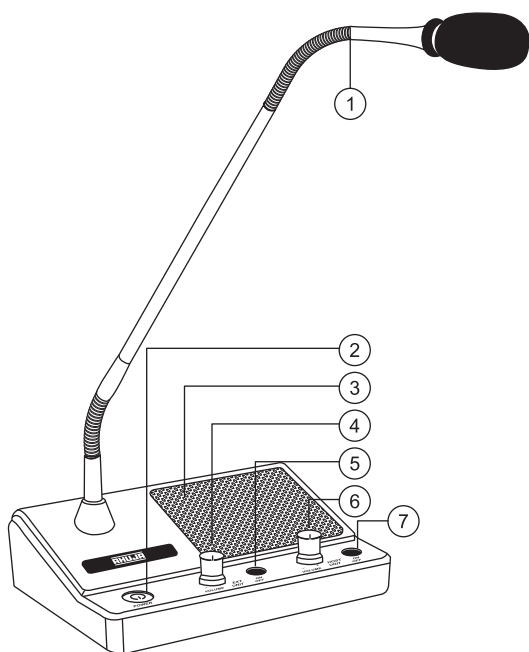

Fig. 1
For the customers outside the glass barrier to listen to the voice of the attendant (operator). The speaker is switched ON by (5), and the level of sound in this speaker is adjusted by (4) in Fig. 1.
- Turn ON the EXT UNIT and HOST UNIT switches on the front panel of the Host Unit. See items (5) and (7) in Fig.1.
- While speaking into the Host Unit mic, and into the external unit, adjust the two volume controls (4) and (6) in Fig.1 to get the desired loudness both inside and outside the glass barrier.